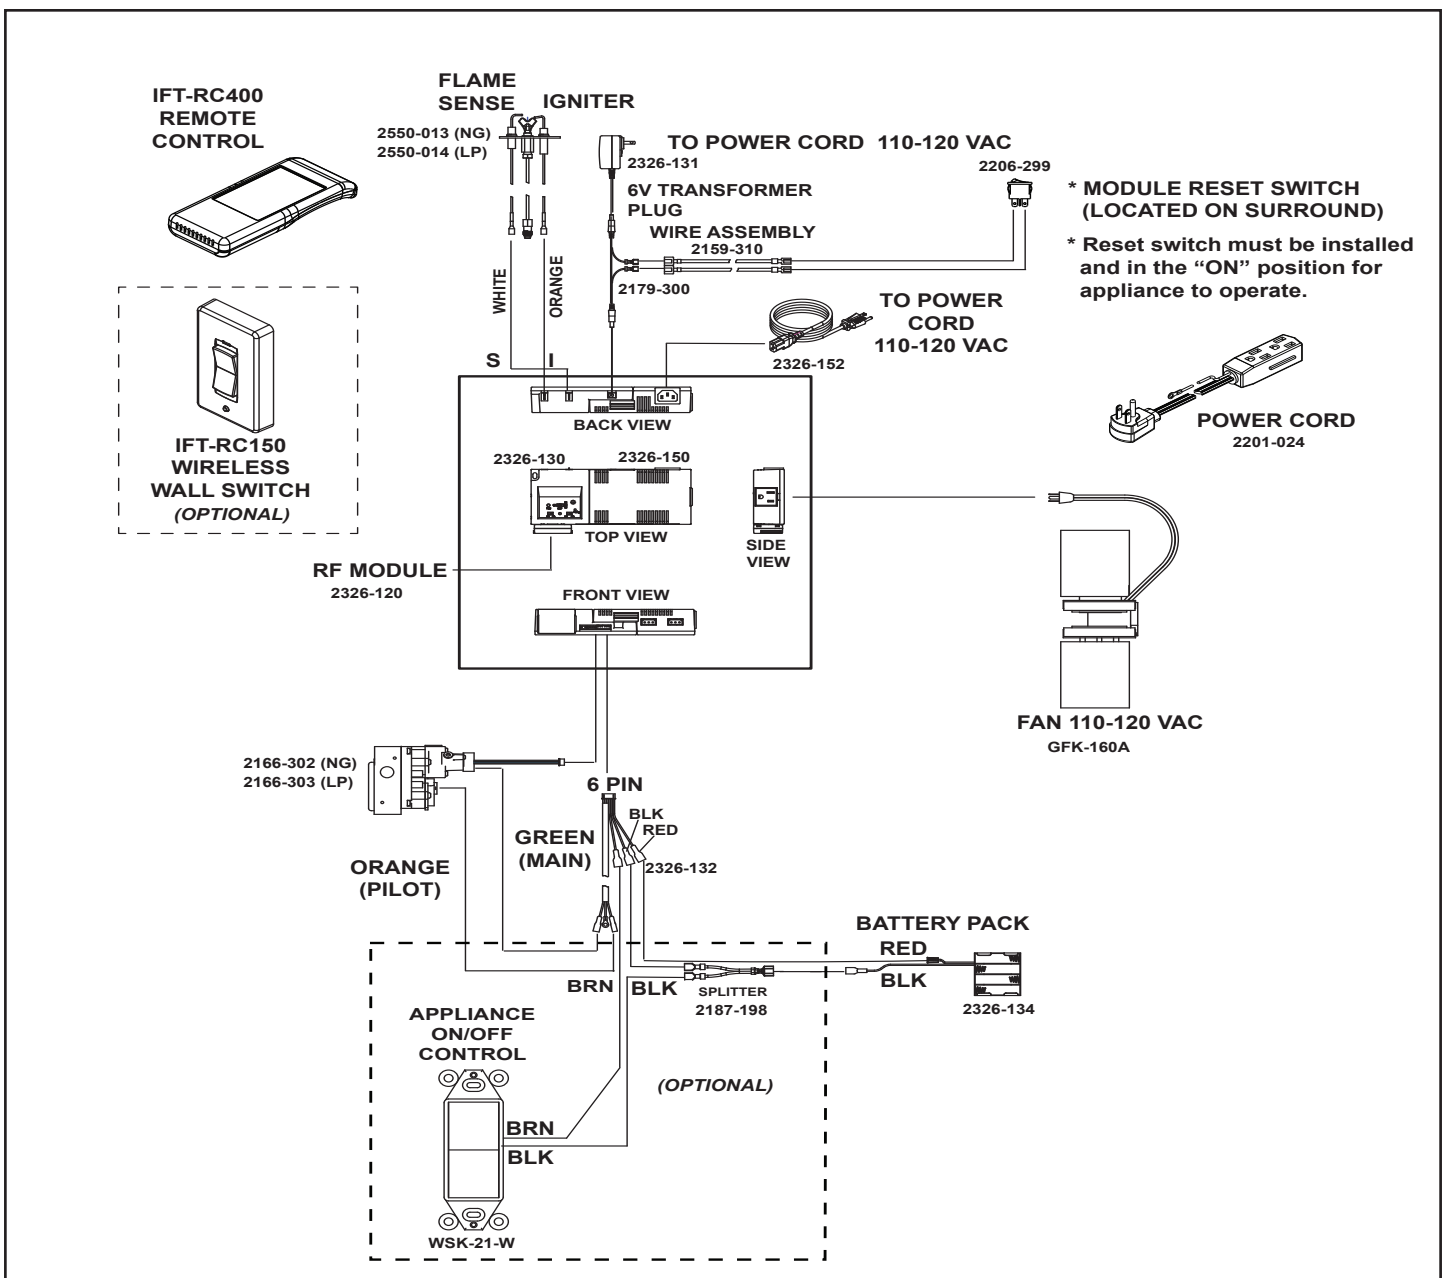

Figure 6.2 IntelliFire™ Touch Wiring Diagram
- Refer to Figure 6.2, IntelliFire™ Touch (IPI) Wiring Diagram.
- Service / replace fan. Figure 6.2 shows a wiring diagram.
- Service / install fan. Figure 6.2 shows a wiring diagram.